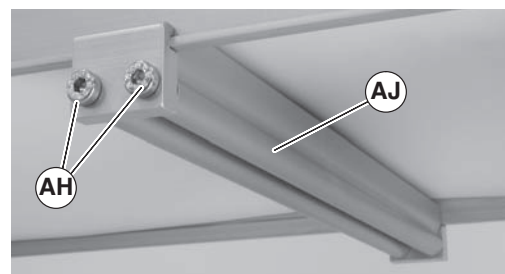

Figure 17
3. Install roller assembly as shown (Figure 17, item AJ). Tighten screws (AH) to 60 in-lb (7 Nm).